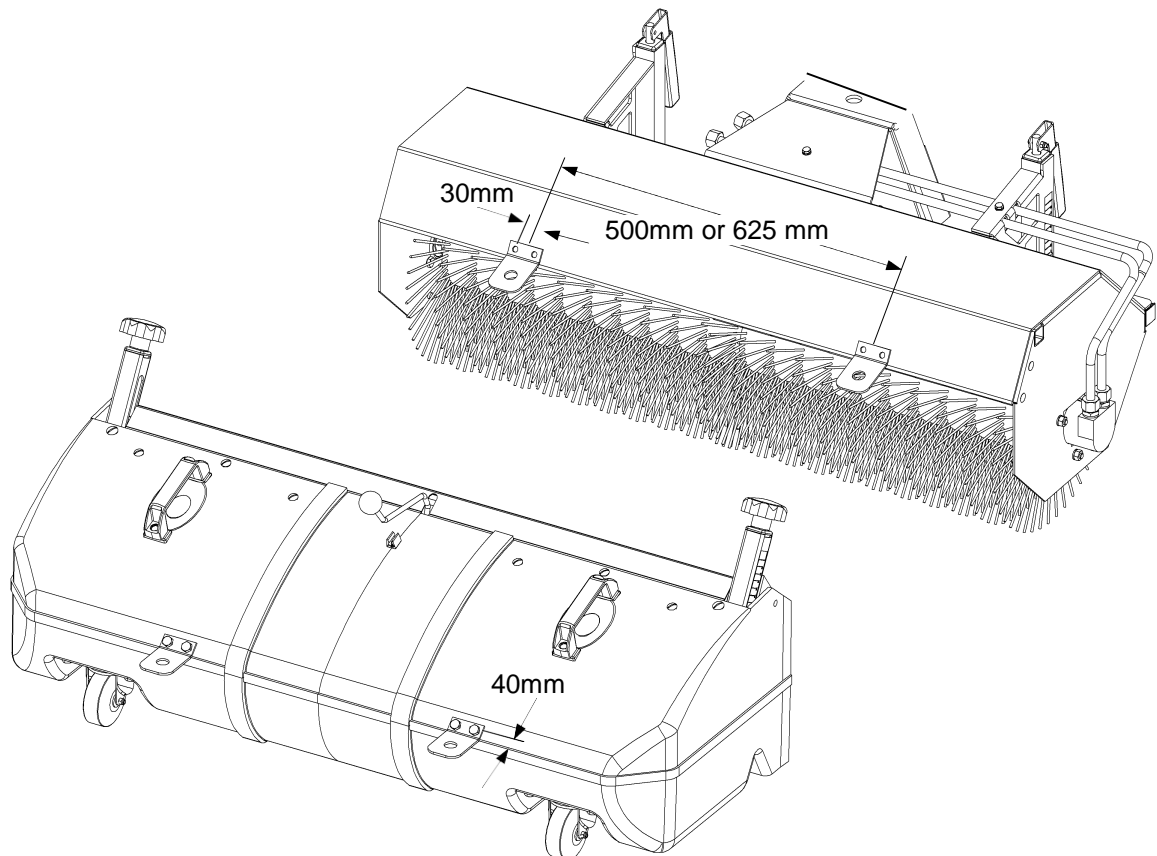

Fig. 5
- When used with front hopper bottom, as shown in the figure 5 sketch.
- (see Fig. 5).